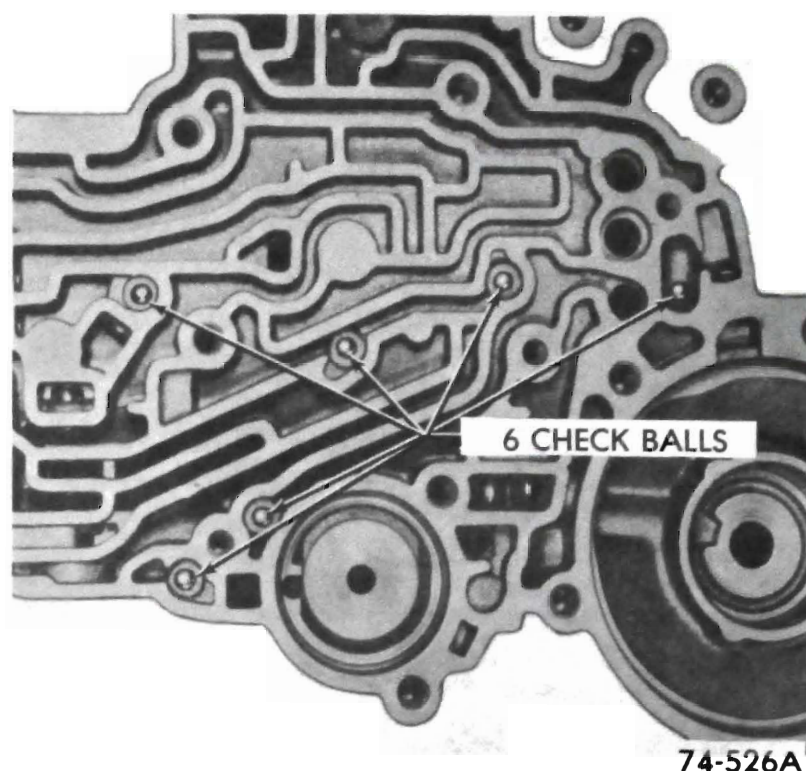

Figure 76-71
8. Remove six (6) check balls from cored passages in transmission case. See Figure 76-71.